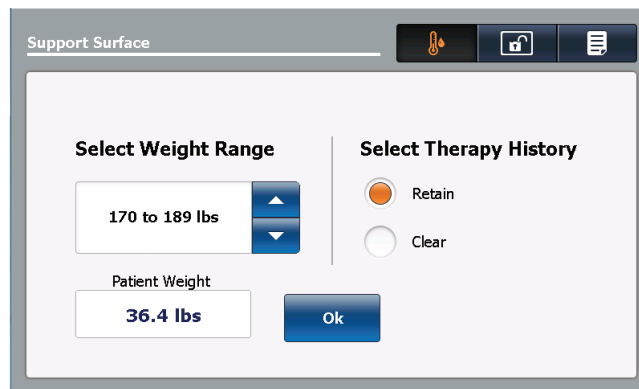

Figure 51 – Surface setting screen
1. Tap the up and down arrows to select the desired weight range (Figure 51).
Tap **Retain** to keep therapy history (Figure 51).